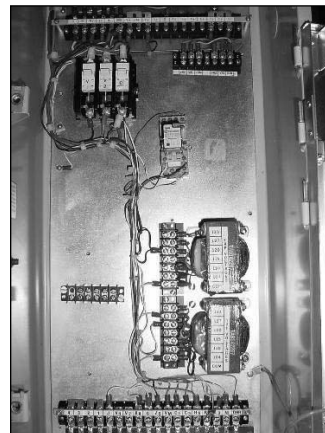

Figure 10
17. Using Item 8, Tie Raps route and secure leads to the back panel wiring harness (See Figure 10).